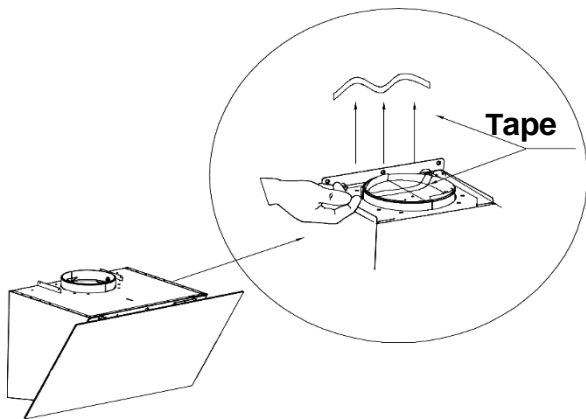

Fig. 10
9. Tear off the tape from the air outlet. (see Fig. 10)